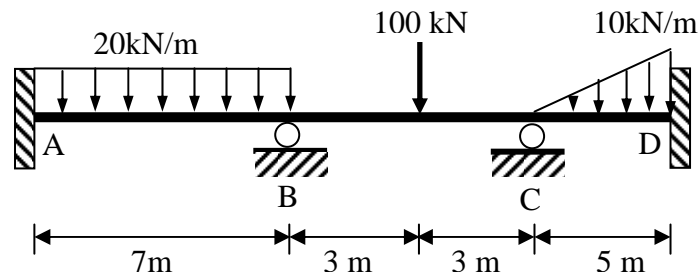

Figure 6
3. (a) Figure 6 shows a beam carrying a uniformly distributed load of 20 kN/m on span AB, a triangular load varying from 0 to 10 kN/m on span CD and a point load of 100kN at mid span BC. Supports A and D are fixed and supports B and C are on roller. The support at C is displaced (settles) 30 mm. Given the value of $E = 200 \text{ GPa}$ and value of $I = 600 \times 10^6 \text{ mm}^4$. Using the Moment Distribution Method, calculate internal moments at the supports of the beam. Hence sketch the deflected shape and bending moment diagram of the frame. Neglect axial deformation.
- (b) Without any calculation, sketch new deflected shape and bending moment diagram if support D (Figure 6) is pinned.